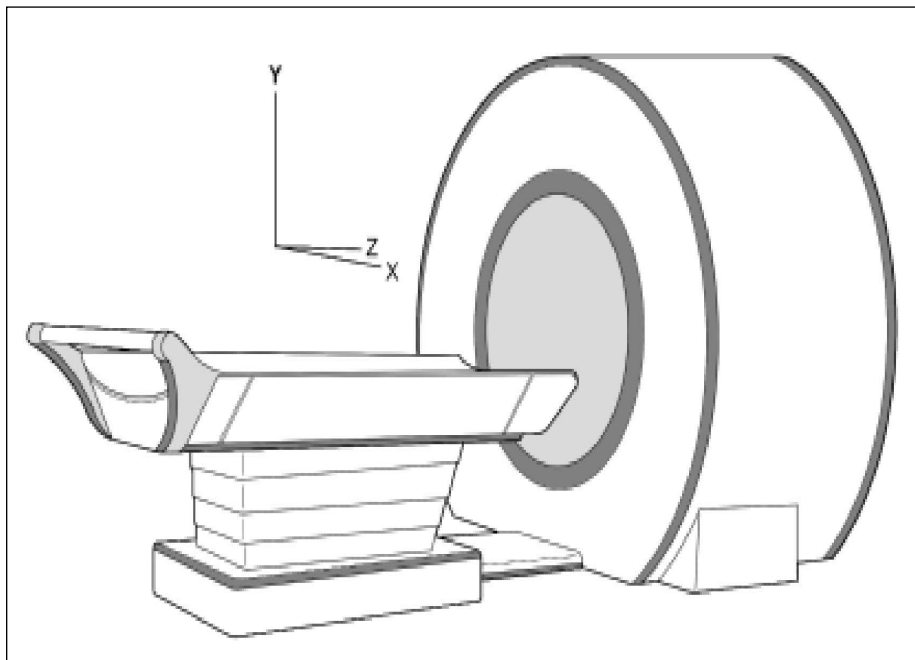

Fig. 21
1. Verify the cradle can travel the full length of the “Z” axis without issue. Repeat for both mechanical and manual movement (Fig. 21).
3. Verify the cradle can travel the full height of the ‘Y’ axis without issue (Fig. 21).